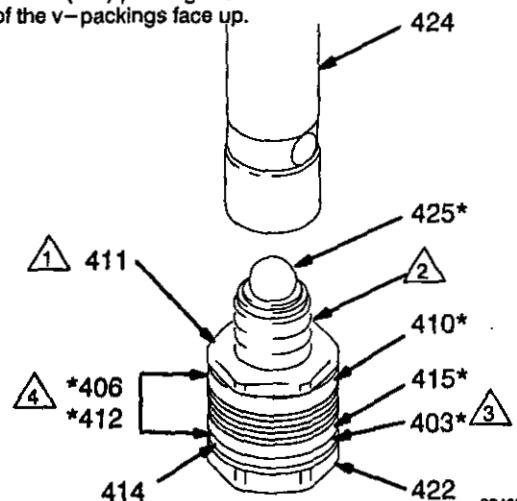
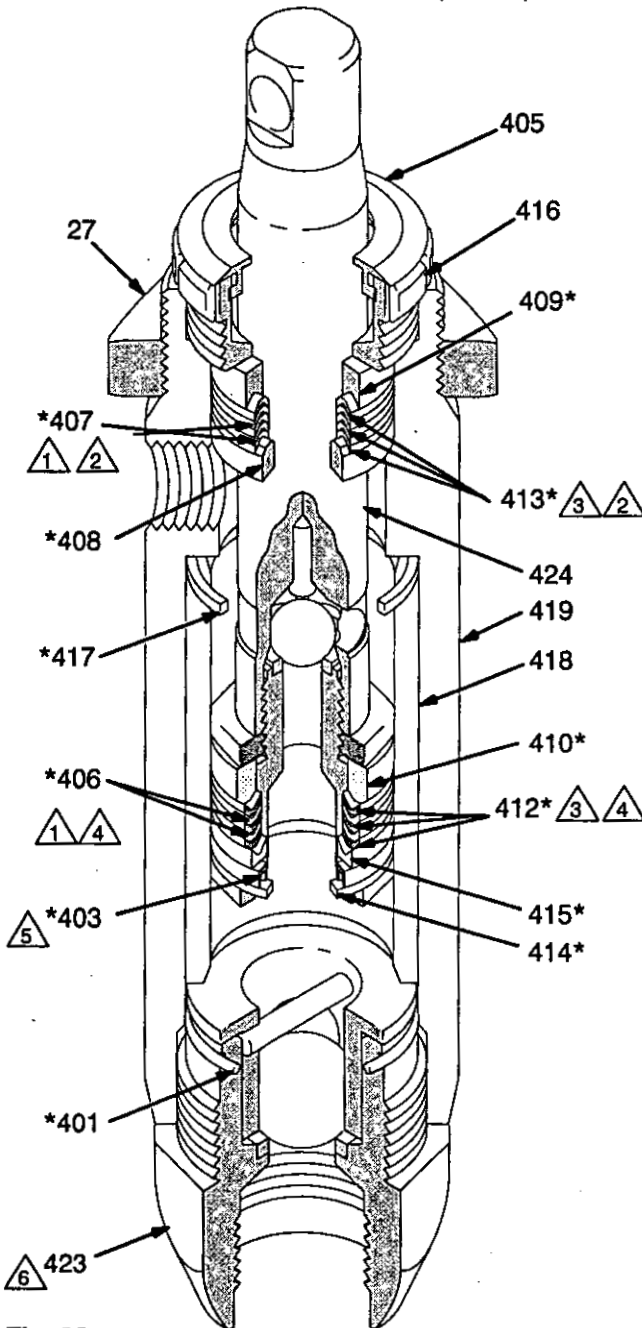

Fig. 30
Fig. 33 03492
4. To disassemble the rest of the pump, remove the packing nut (416) and plug (405). See Fig. 33.
5. Use a plastic mallet to tap the piston rod (424) down. Pull the rod out through the bottom of the cylinder.
6. Remove the throat packings. See Fig. 30.
11. Disassemble the piston valve (422). See Fig. 30.
- Check the outside of the piston rod (424) and the inside of the sleeve (418) for scoring or scratches. If the parts are damaged, new packings will not seal properly. Replace these parts if needed.
- Alternate leather and plastic packings as shown in Fig. 30. The lips of the throat "V" packings must face down. The lips of the piston "V" packings must face up. The lips of the U-cup seal (403) face down. Incorrect installation damages the packings and causes the pump to leak.
- Stack the backup washer (414), seal (403*), female gland (415*), alternate the packings (412*,406*), and then male gland (410*) onto the piston valve (422). See Fig. 30.
- Tighten the packing retaining nut (411) onto the piston valve (22) to the torque specified in Fig. 30.
- Put the ball (425*) on the piston valve (422). See Fig. 30.
- Apply one drop of adhesive, supplied, to the threads of the piston valve. Then hand tighten the valve assembly into the piston rod just until the nut (411) contacts the rod. See Fig. 30.
7. Put a new o-ring (417*) firmly in the cylinder groove. See Fig. 33.
8. One at a time stack the male gland (408*), alternate the packings (413*, 407*), and then install the female gland (409*), into the top of the cylinder (419). See Fig. 33.
9. Install the packing nut (416) and plug (405), but leave loose for now. See Fig. 33.
11. Screw down the cylinder locknut (27) until it is finger tight at the bottom of the external cylinder threads.
12. Put the flats of the intake valve (423) in a vise. Install a new o-ring (401*) and screw the intake valve into the pump cylinder. See Fig. 33. Torque the valve to 110 ft-lb (146 N.m).